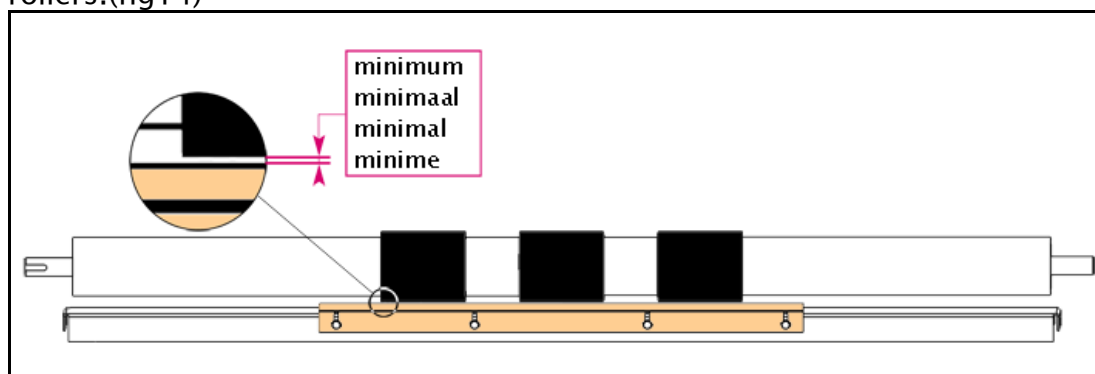

fig14
- a. Adjust the scrapers as close as possible without touching the rubber traction strips, especially the older, glued types of pressure rollers.(fig14)